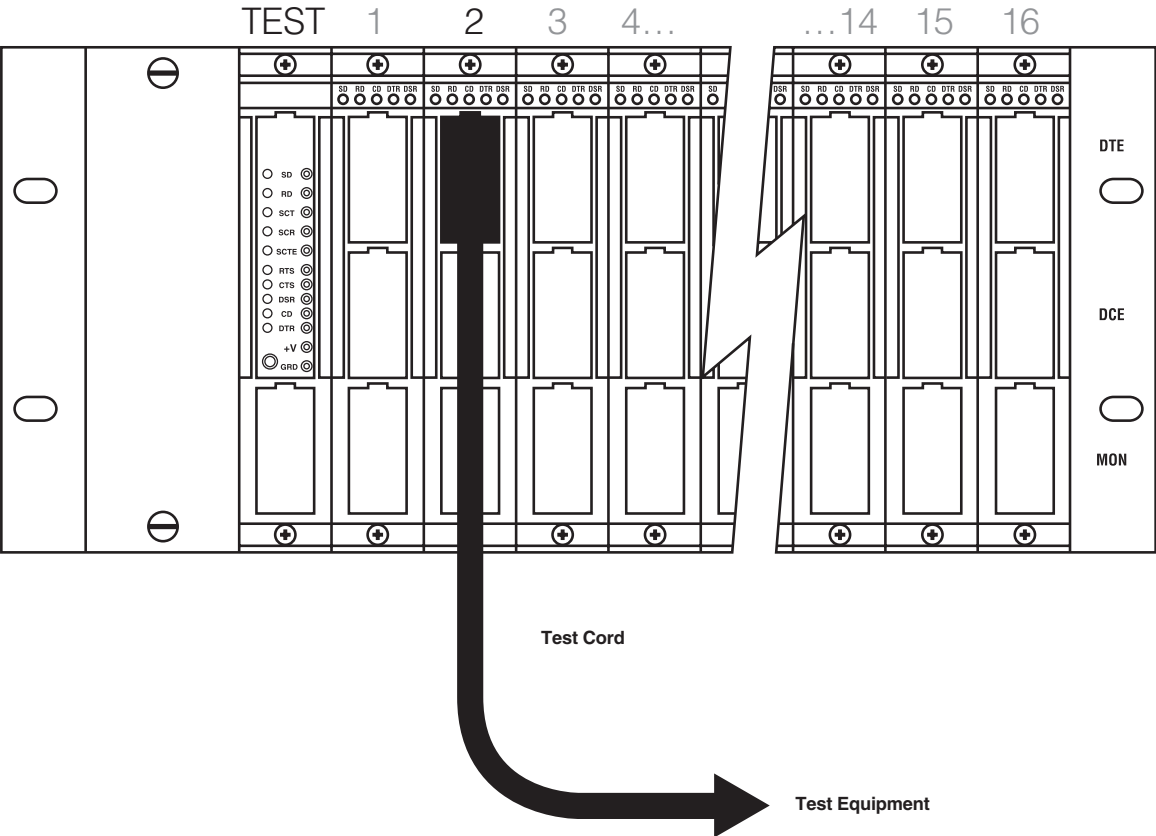

Figure 6-7. Test patch-cord connection.
2. Connect the opposite end of the same test patch cord to the external test equipment (see Figure 6-7).